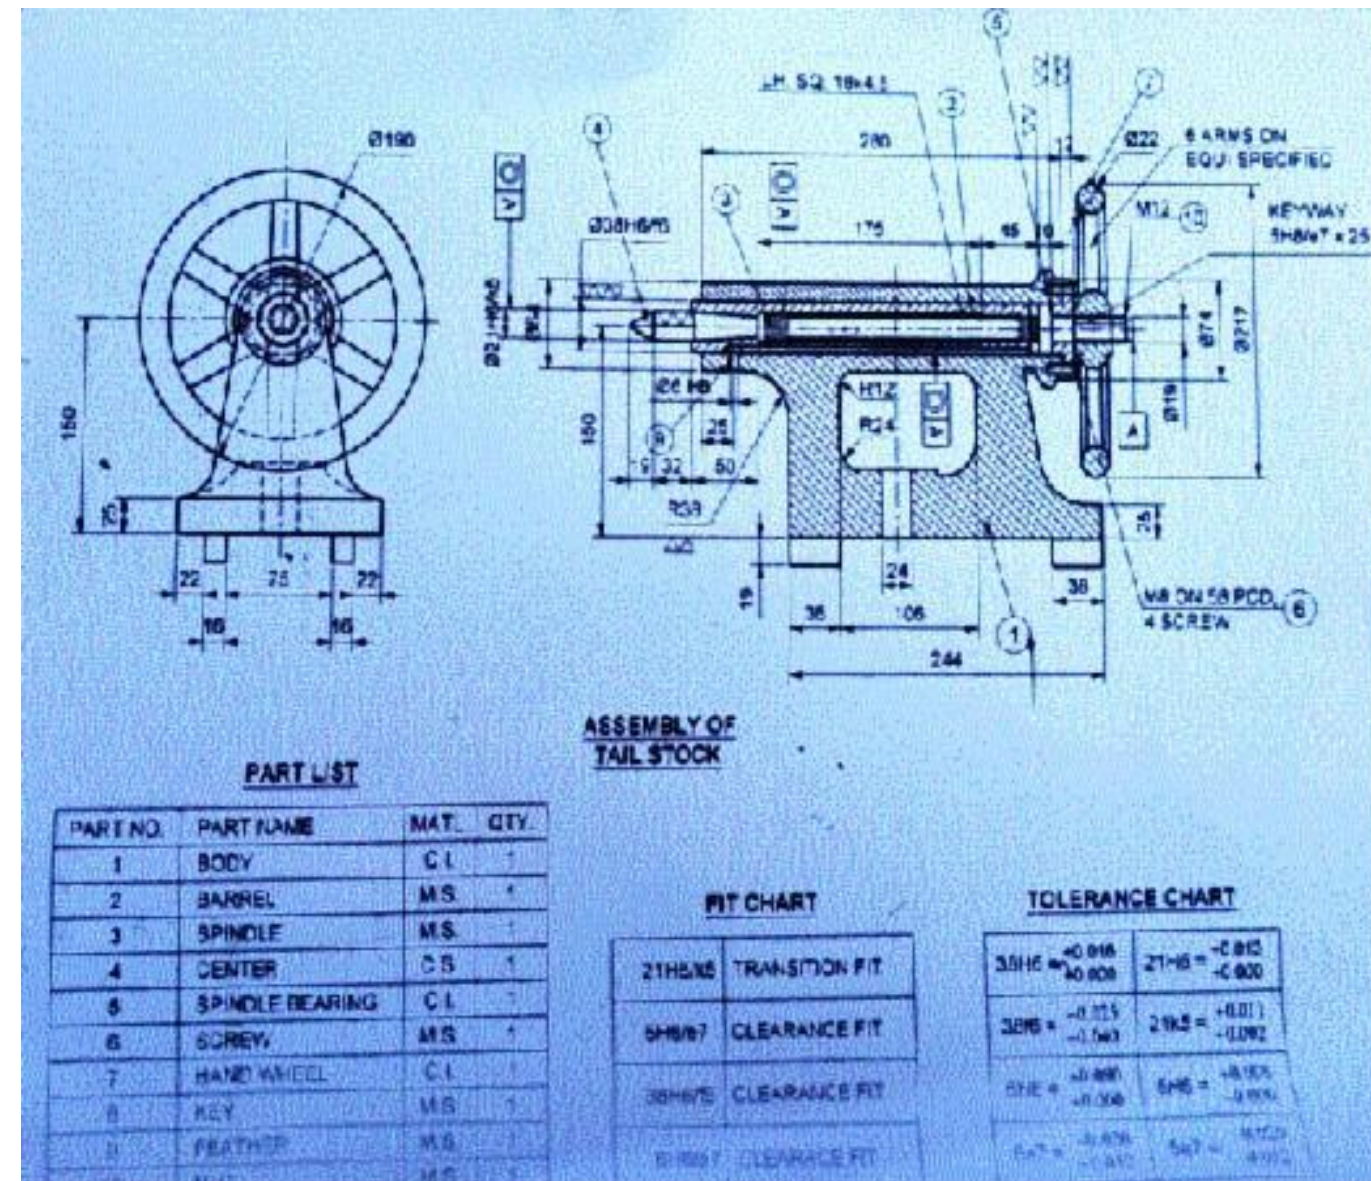

Figure 9.
1. Figure 9. Shows the assembly of the tail stock. Draw the following details: